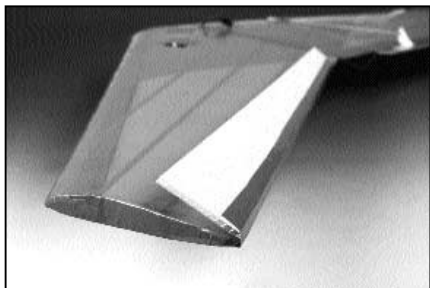

fig. 6
- 5. Swing the elevon to the top of the wing and lay flat. Use a small piece of tape to hold it there (see fig. 6 & 7).